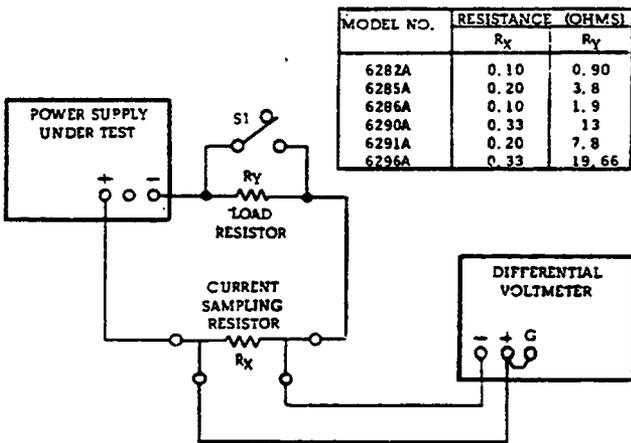

Figure 5-4. Output Current Test Setup
- a. Connect test setup shown in Figure 5-4, leaving switch S1 open.
- Connect test setup shown in Figure 5-4.
a. Utilize test setup shown in Figure 5-4 leaving switch S1 open throughout test.
a. Use test setup shown in Figure 5-4, except connect AC voltmeter across sampling resistor instead of differential voltmeter.